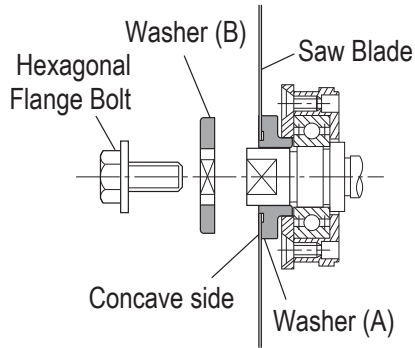

Fig. 15
- For mounting saw blade, the concave side of washer (A) must be fitted to the saw blade side. (See Fig. 15)
- (3) If washer (A) was removed, install it on the main unit first. Next, mount the saw blade on the spindle, and finally, affix washer (B). (See Fig. 15)